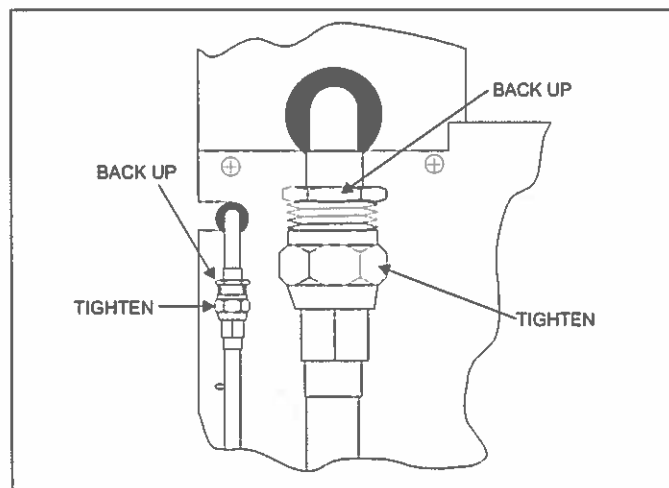

FIGURE 6: Quick Connect Coupling
- a. Tighten indoor coil couplings with wrenches; using wrench on stationary fitting of coupling and liquid line fitting at coil while nut is being tightened. See Figure 6. Tighten the nut until the coupling bottoms out.